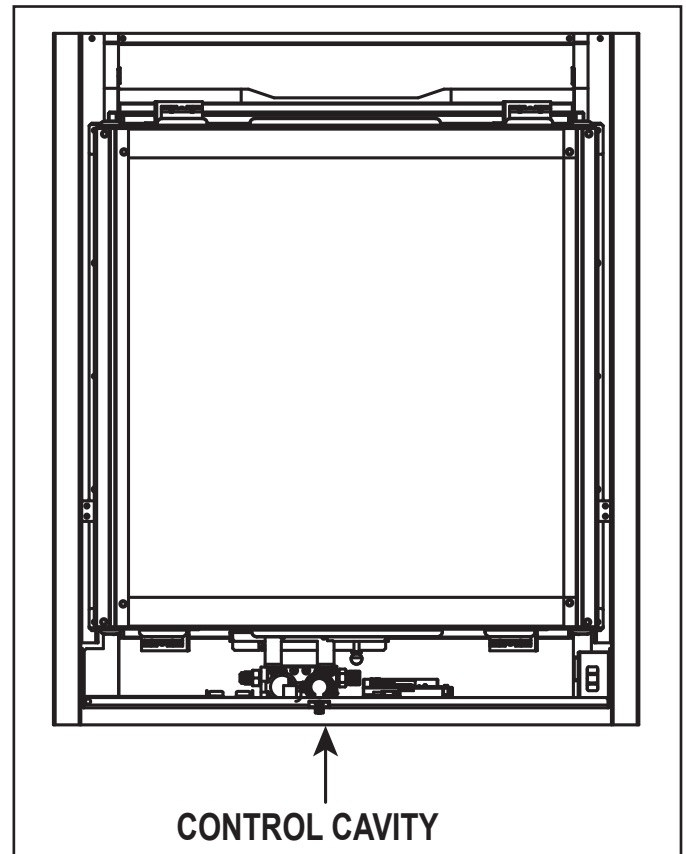

Figure 3.3 Control Cavity Location
The IntelliFire Plus intermittent pilot ignition system comes with a battery backup system that enables the system to operate in a power outage. The system offers seamless transition from household AC power to battery backup. A factory-installed battery pack is located in the control cavity of the appliance. See Figure 3.3. Battery longevity and performance will be affected by long term exposure to the service temperatures of this appliance.
1. Access the control cavity of the appliance. See Figure 3.3 for location. The decorative front or door will need to be removed. See Section 4.B for decorative front removal information.
The battery backup is located in the control cavity of the appliance. See Figure 3.3. A complete wiring diagram is included in the Electrical section of the appliance installation manual.